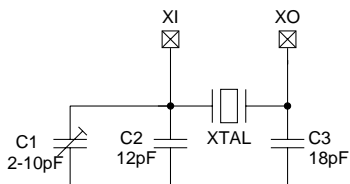

Figure 11: Crystal osc. resonator (assumes CL=10pF)
The on-chip crystal oscillator is a Pierce oscillator. The external components required are the crystal resonator and its load capacitance. The schematic diagram of the resonator is shown in Figure 11.
As in most oscillators, the performance is determined more by the resonator rather than the oscillator circuit, thus proper choice of the resonator is important. Here a high quality crystal for communication applications, such as NDK NX5032SA or Toyocom TSX-8A is recommended. The load capacitors (C2 and C3 in Figure 11) must be approximately equal and should be set to twice the rated load capacitance (CL) specified by the crystal manufacturer. Good quality NPO ceramic capacitors are recommended for best oscillator stability. Stray capacitance (about 1.5-2pF) should also be taken into account. If desired a trimmer capacitor (C1) may be added in parallel to C2 for fine frequency adjustment.